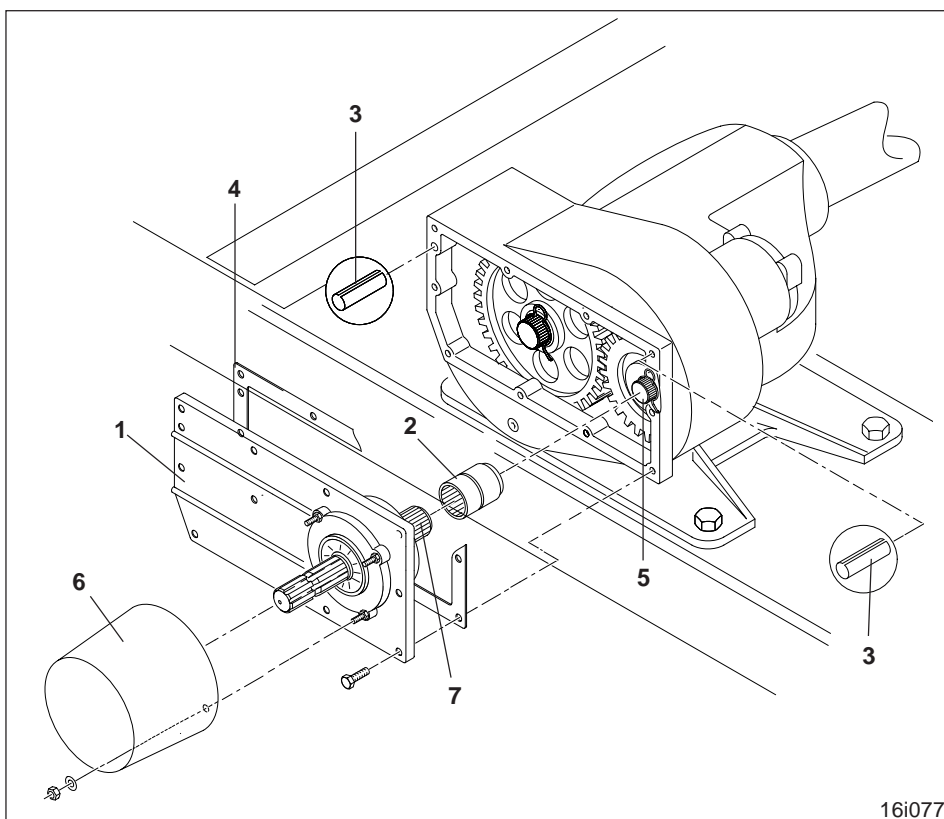

Fig. 9.10
Driving a pto shaft driven seed drill with the exchange gear main gearbox requires retrofitting of the pto shaft through drive (Fig. 9.10) as described in para. 9.4.5.
For fitting the pto shaft through drive and the angle power take off the gearbox lid (Fig. 9.10/1) has to be exchanged. The procedure is identical and is explained in the following under: Fitting the pto shaft through drive.
- Insert the connecting tubular bushing (Fig. 9.10/2) with internal circlip on the through drive shaft (Fig. 9.10/7).
- Centre the gearbox lid (Fig. 9.10/1) using two cylinder pins (Fig. 9.10/3) and – using a new gasket (Fig. 9.10/4) – bolt it to the gearbox. Slide the connecting tubular bushing (Fig. 9.10/2) onto the drive shaft (fig. 9.10/5).
- Bolt the protective cap (Fig. 9.10/6) to the gearbox lid.